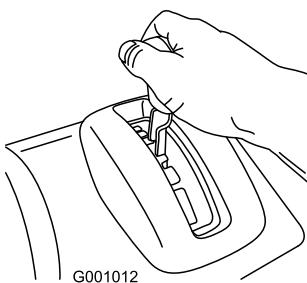

Figure 13
- Place the speed selector lever to the desired forward position, making sure that it locks in the notch (Figure 13).